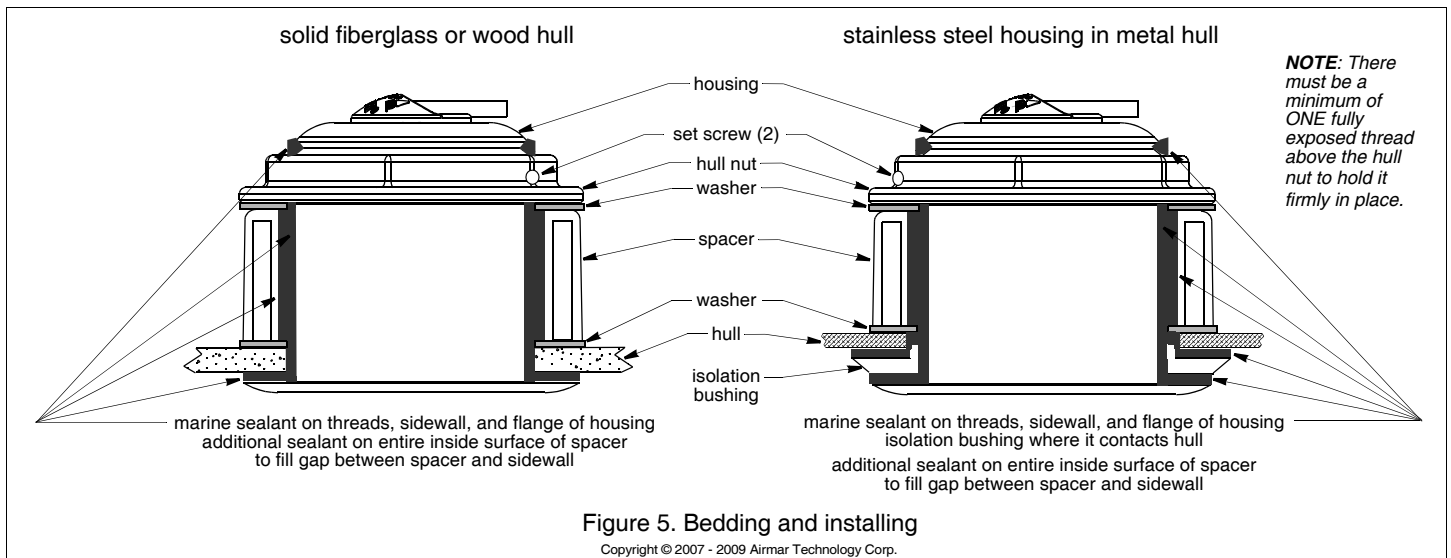
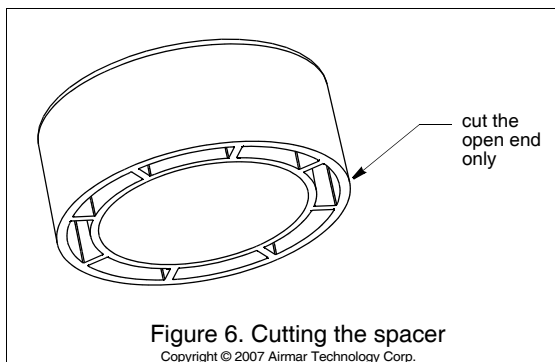

Figure 5. Bedding and installing
Figure 6. Cutting the spacer
4. Dry fit the transducer to determine if the spacer must be cut. From outside the hull, push the housing through the mounting hole (Figure 5). From inside, slide one of the washers onto the housing. Slide the spacer onto the housing with the open end facing the hull. Add the remaining washer. Be sure a minimum of **THREE** threads are showing on the housing above the washer. If not, cut the spacer to make it shorter. When cutting the spacer, be sure to cut the open end (Figure 6).
1. Apply a 4mm (1/8") thick layer of marine sealant to the flange, sidewall, and threads of the housing (Figure 5). The sealant must extend 12mm (1/2") higher than the combined thickness of the hull, spacer, and hull nut. This will ensure there is marine sealant in the threads to seal the hull and to hold the hull nut securely in place.
2. From inside the hull, slide one of the washers onto the housing (Figure 5). Slide the spacer onto the housing until the open end rests against the washer. Add the remaining washer. **Be sure a minimum of THREE threads are showing on the housing above the washer.** If not, make the spacer shorter by cutting the *open end* (Figure 6).